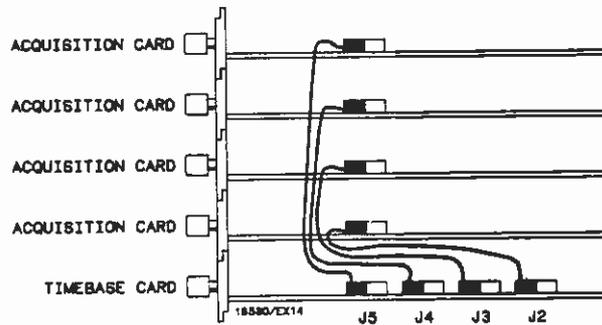
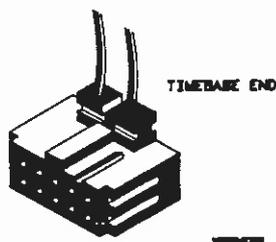

Figure A-2. Card and Cable Configuration
Figure A-3. Cable End
- Use one cable per acquisition card. See figure A-2.
- d. Noting "Installation Considerations" on page A-2, use figure A-2 to plan the card configuration and cable connection.
- g. Install one cable per acquisition card into the correct timebase card connector (see figure A-2), making sure to install the correct cable end. Use figure A-3 to identify the correct cable end.